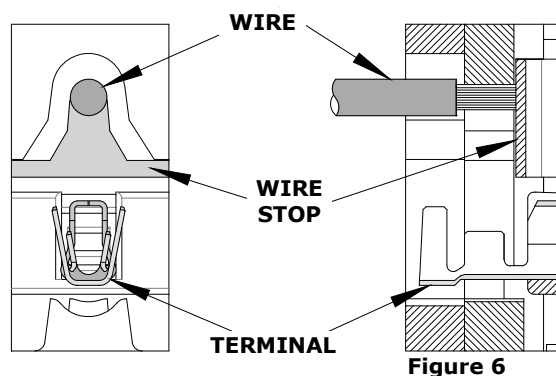

Figure 6
10. On some wires, it may not be possible to insert the wire with the tool partially closed. Those wires should be inserted with the hand tool in the open position. Insert the wire above the terminal in the punch and against the wire stop, and then close the tool. See Figure 6.